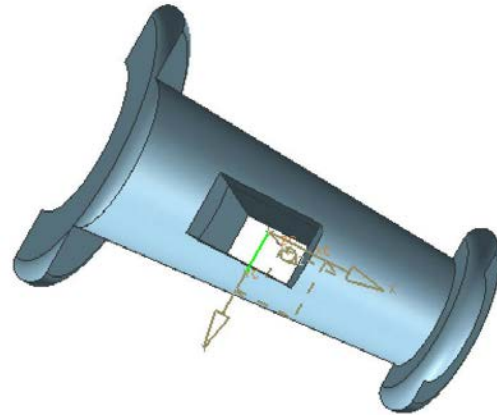

Figure 10-102 The surface model after trimming the base surface with respect to the extruded surface
4. Select the **Keep** radio button from the **Region** rollout and then choose the **OK** button. The trimmed surface model is shown in Figure 10-102.